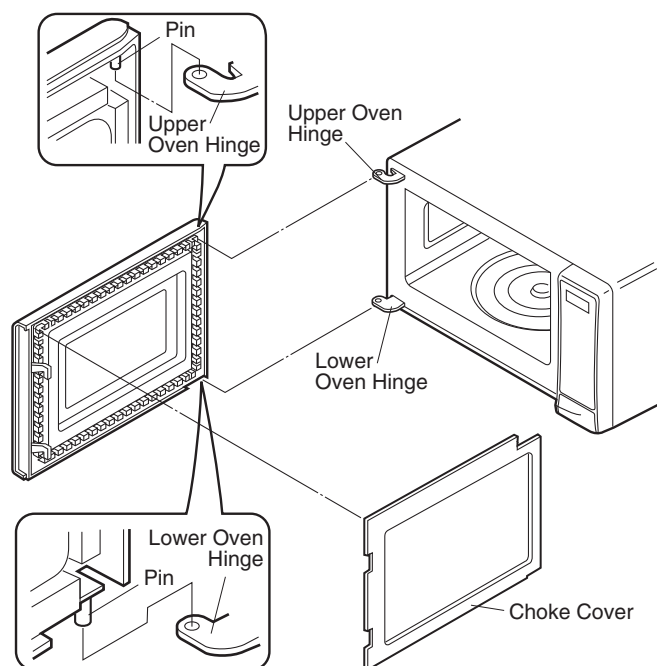

Figure C-5. Door Replacement
- Release two (2) pins of door panel from two (2) holes of upper and lower oven hinges by lifting up **Figure C-5**.
- Catch two (2) pins of door panel on two (2) hole of upper and lower oven hinges and insert choke cover **Figure C-5**.